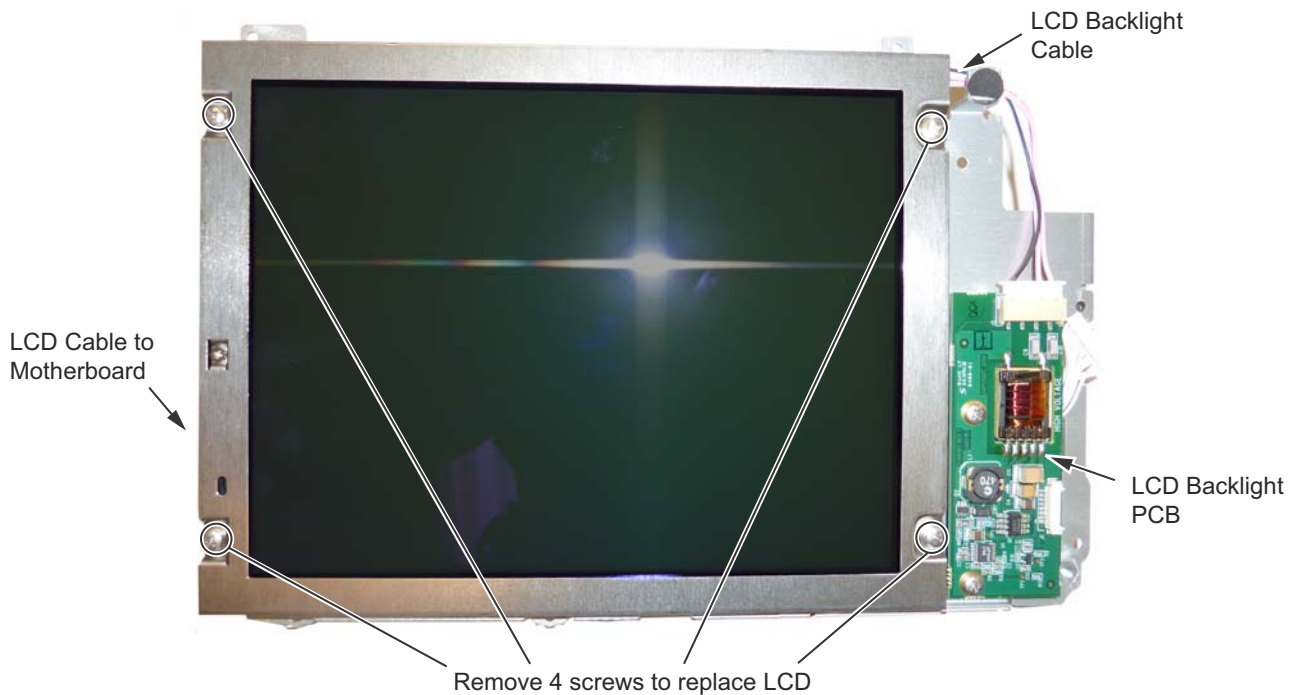

Figure 7-12. Replacing the LCD
- Use a Phillips screw driver to remove the four screws securing the LCD to the housing (Figure 7-12).